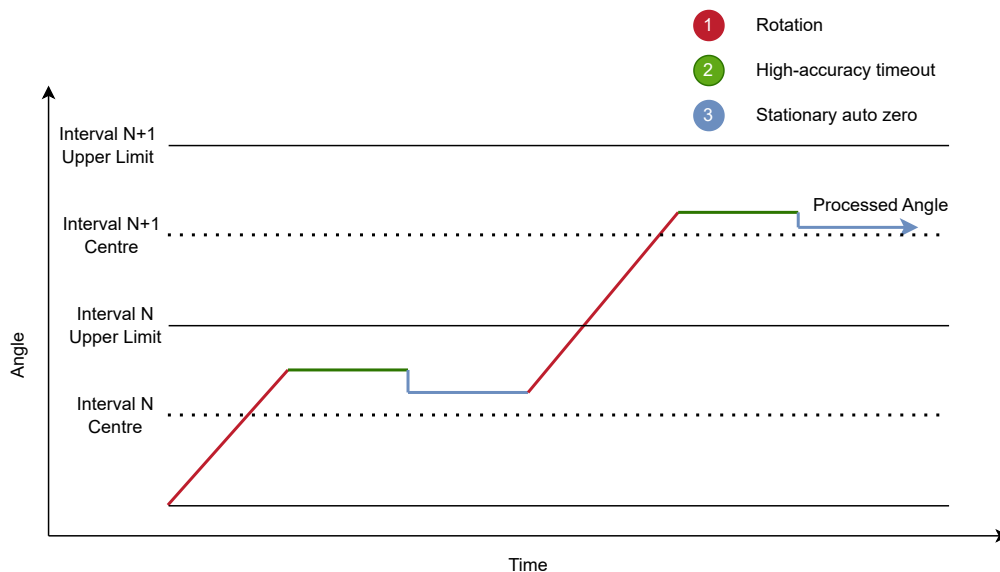

Figure 4.9: Stationary Auto-zero Behaviour
- > **Stationary:** An auto-zero event will occur when the High-Accuracy timeout event occurs. A single adjustment is made to the absolute angle offset each time the device exits High-Accuracy mode. The *Auto-Zero Beta* parameter defines the size of the adjustment, with an auto-zero beta value of 0 resulting in a jump to the exact centre of the interval. This behaviour can be seen in Figure 4.9.